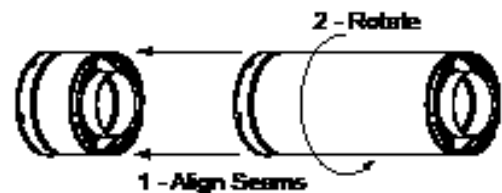

Figure 21– Adding Venting Components
- Align the seam of the pipe and seam of collar to allow engagement. Rotate the vent component to lock into place. Use this procedure for all vent components. See *Figure 21*.